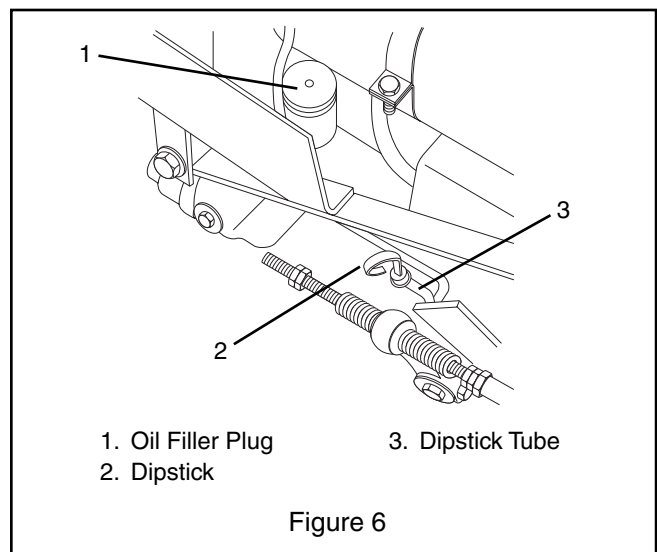

Figure 6
3. Clean the dipstick tube and the dipstick (Figure 6).